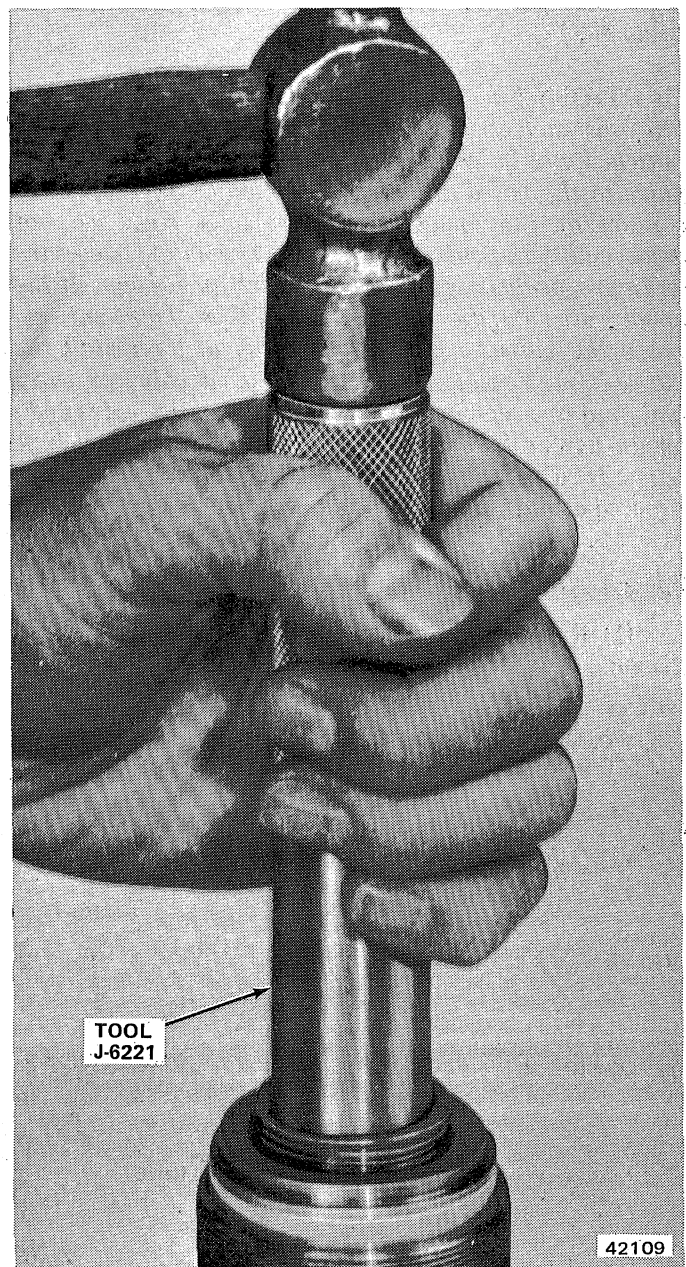

Fig. 2L-25 Adjuster Plug Needle Bearing Removal/Installation
(1) Lubricate dust seal and O-ring with petroleum jelly. Lubricate all other components with power steering fluid.
(2) Position needle bearing on Tool J-6221 so bearing manufacturer's identification number is facing tool.
(3) Install bearing in adjuster plug until bearing is flush with bottom surface of stub shaft seal counterbore (fig. 2L-25).
(4) Install stub shaft seal in adjuster plug deep enough to provide clearance for dust seal and retaining ring.